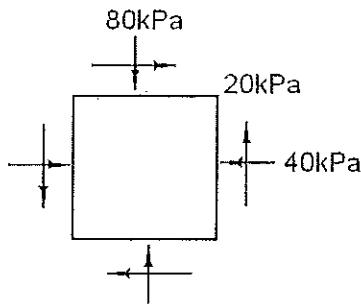

Figure A5
5. For the state of plane stress shown in Figure A5, the major principal stress is:
6. For the state of plane stress described in Figure A5, the angle between the horizontal plane and the plane of major principal stress is: